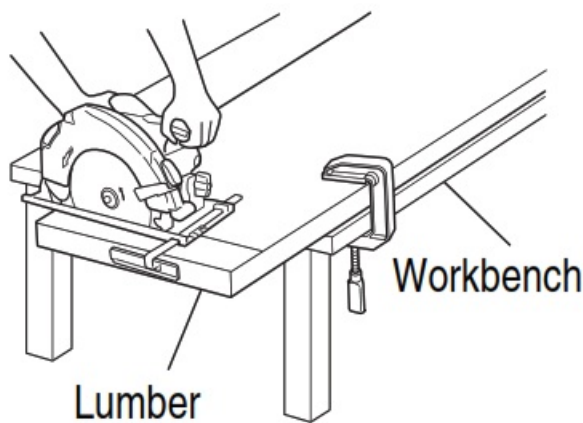

Fig. 2
3. Prepare a wooden workbench (Fig. 2)